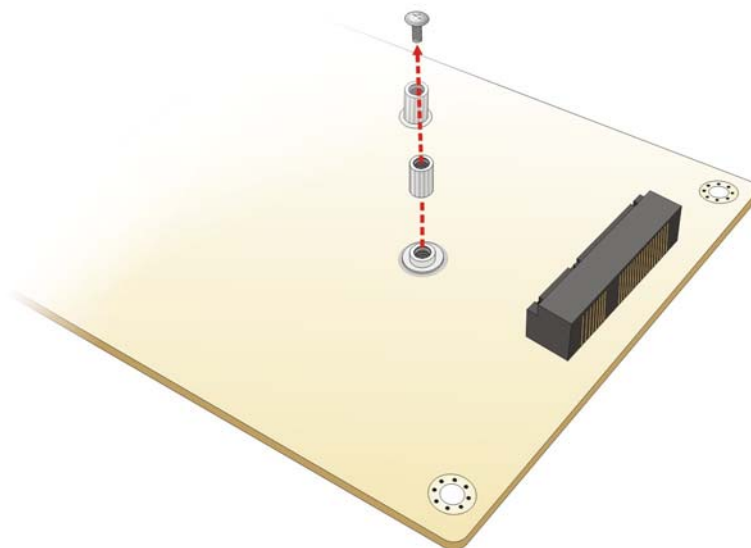

Figure 4-3: Removing the Retention Screw and Standoff
Step 3: Remove the retention screw and standoff. Unscrew and remove the retention screw and standoff for half-size PCIe Mini card secured on the motherboard as shown in Figure 4-3.
CN Location:	See Figure 4-3
The location of the clear CMOS button is shown in **Figure 4-3**